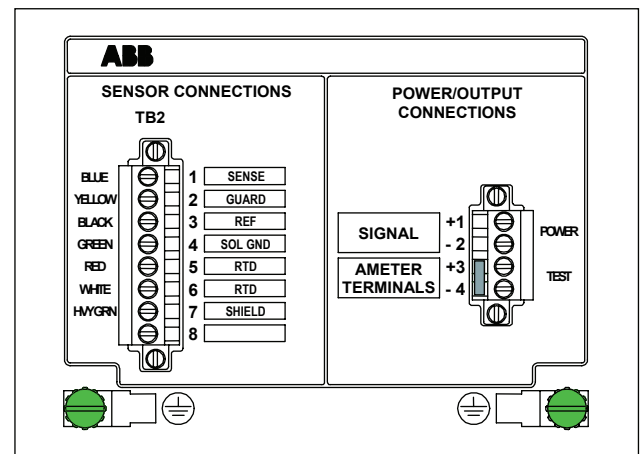

Figure 7 - Power Connections
The TB82PH Transmitter is powered by DC voltage. See the appropriate power requirements in the Specification Section for the particular type of TB82 Transmitter in use (Analog, HART, PROFIBUS or Foundation Fieldbus (FF)). Power is connected to the POWER/OUTPUT area on TB1, terminals 1 and 2 (see Figure 7).